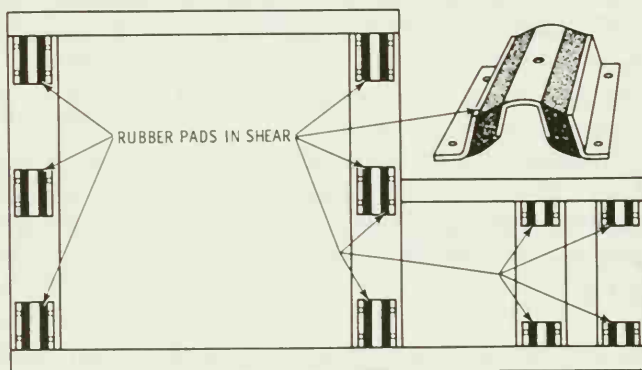

Fig. 7. A typical sound-reduction fan platform used in attic and industrial installations.
3. Equipment may be mounted on rubber or other resilient bases. These materials assist in preventing transmission of noise through the building. A typical noise-reduction platform that is commonly used in attic-fan installations is shown in Fig. 7.
such as upholstery, draperies, walls, table tops, lamp shades, book shelves, etc. Numerous vacuum cleaners provide an attachment for spraying paint, liquid insecticides, and floor wax. The special spray gun furnished for this purpose consists of a liquid container with a detachable spray-gun top to which the air-pressure cleaner hose may be attached, much in the same manner as on the upright cleaner. Fig. 7 illustrates the disassembled view of a typical cylinder-type vacuum cleaner.